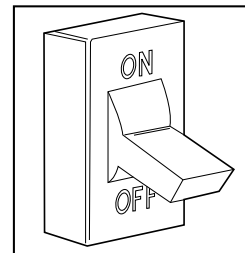

Fig. 12 – Turn Off Electrical Supply
- Turn off the electrical supply to the furnace, see Fig. 12.